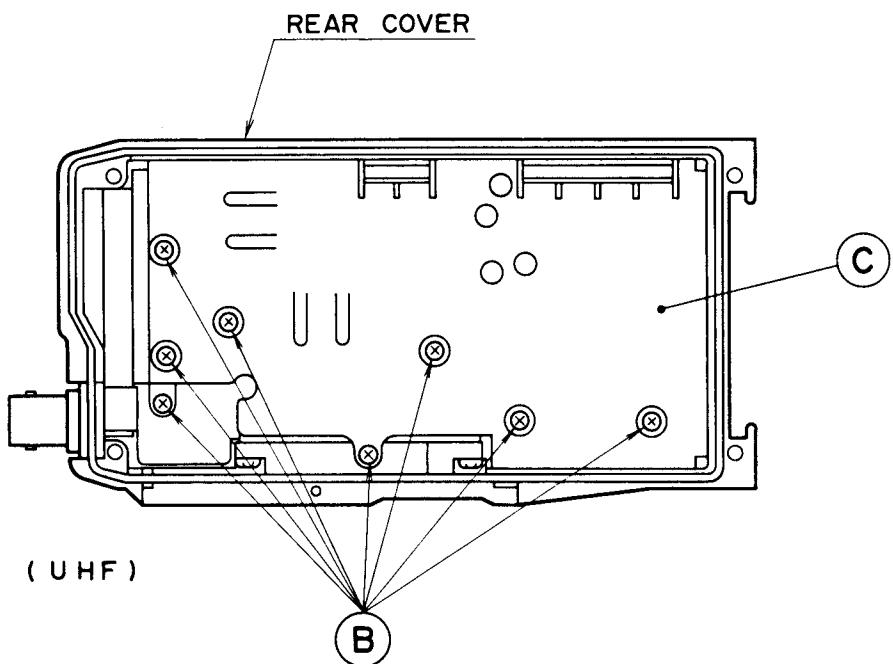

FIGURE 16 - DISASSEMBLY STEP 2
**To Remove the Radio Board,** use the Phillips-head screwdriver and remove the two (8) screws at **(B)**. Remove the RF shield cover at **(C)** (See Figure 16).